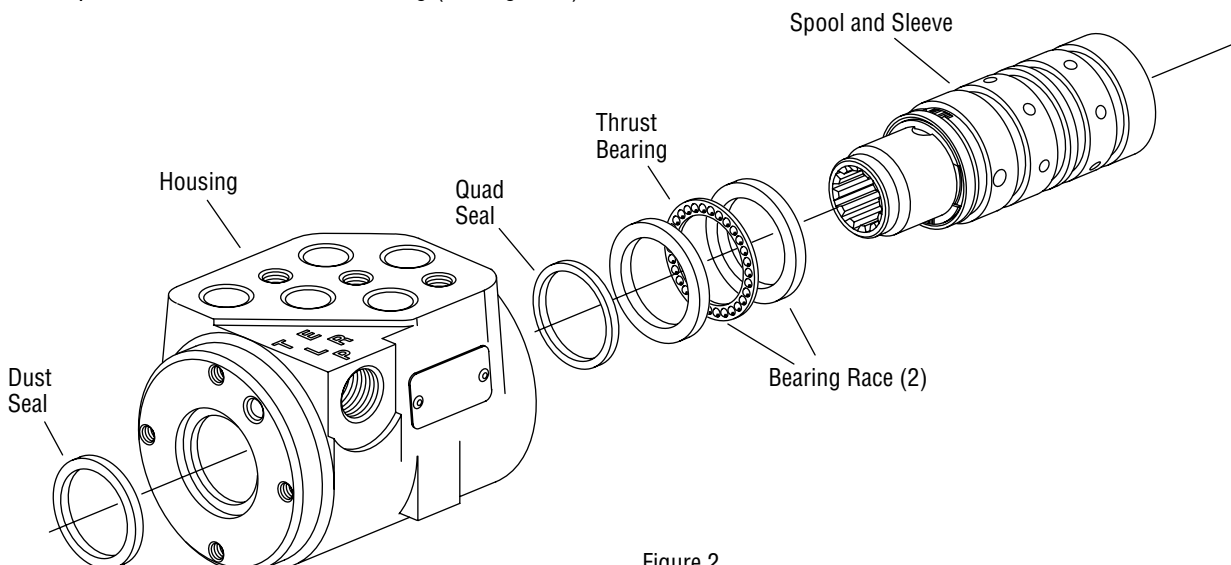

Figure 2
3 Slide the spool and sleeve from the housing (see Figure 2).
- 17** Put the thrust bearing and races into the housing. The thrust bearing goes between the two races (see Figure 2).